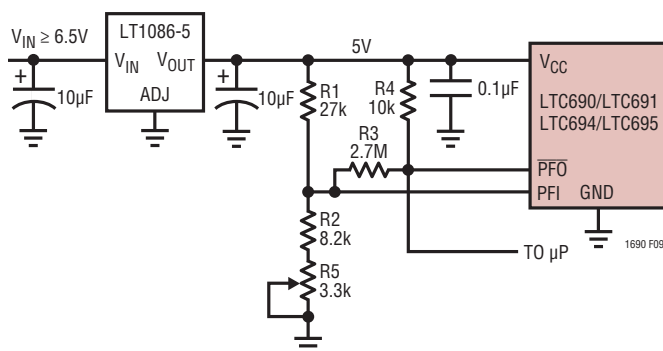

Figure 9. Monitoring *Regulated* DC Supply with the LTC690's Power-Fail Comparator
**Example 2:** The circuit in Figure 9 can be used to measure the regulated 5V supply to provide early warning of power failure. Because of variations in the PFI threshold, this circuit requires adjustment to ensure the PFI comparator trips before the reset threshold is reached. Adjust  $R5$  such that the  $\overline{PFO}$  output goes low when the  $V_{CC}$  supply reaches the desired level (e.g., 4.85V).